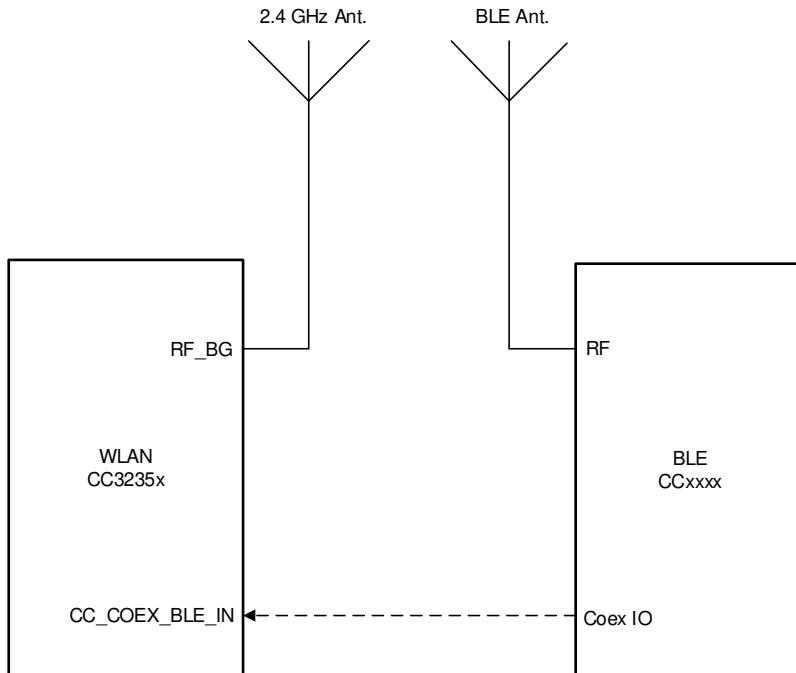

図 9-3. Dual-Antenna Coexistence Mode Block Diagram
- 2.4GHz Wi-Fi Band (see 図 9-3)
図 9-3 shows the dual antenna implementation of a complete Bluetooth® low energy and WLAN coexistence network with the WLAN operating on either a 2.4- or a 5GHz band. Note in this implementation no Coex switch is required and only a single GPIO from the BLE device to the CC3235x device is required.